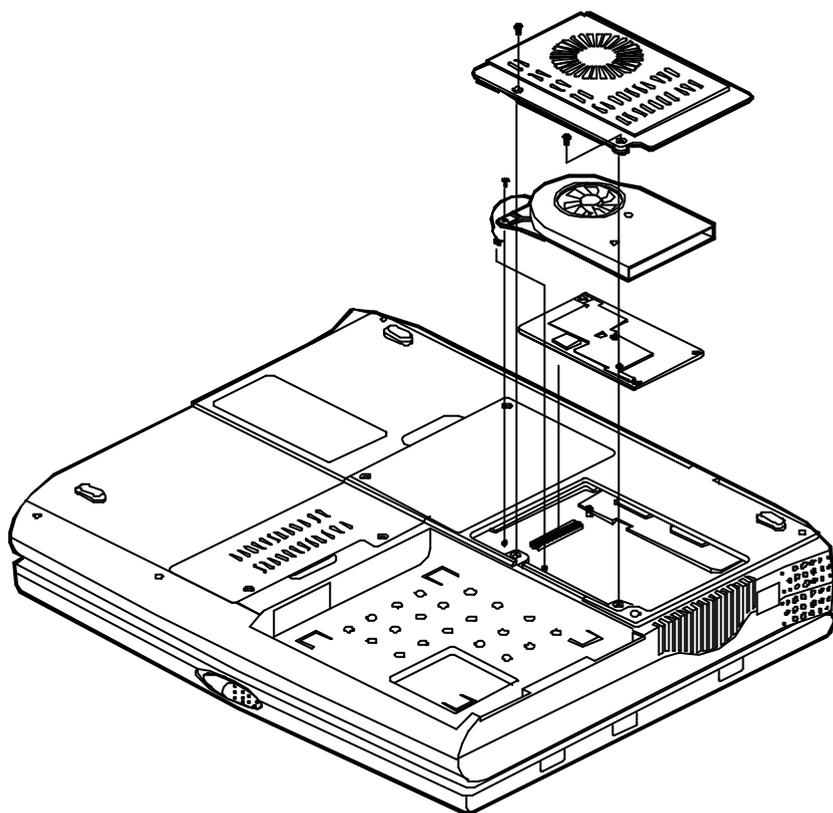

Figure 2-2
- Carefully detach the Processor Module from the mainboard (Figure 2-2).